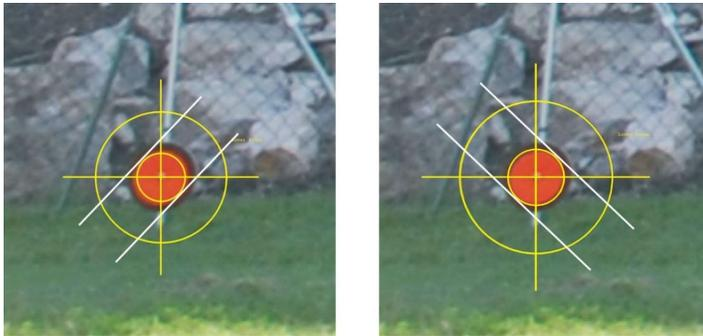

Figure 27: Check of the target center
4. Choose the “Manual Target Mode”  or the “Automatic Mode”  and centre the target by clicking with the mouse in the viewer. For locating the target discs the image should be zoomed as much as reasonable for visual interpretation. Check the position of the center by changing the size of the reticule. The reticule is well-centered if the circles touch the target’s boundary simultaneously at two opposing points and in two perpendicular directions (Figure 27).
4. Choose the “*Manual Target Mode*” icon or the “*Automatic Mode Icon*” and centre the target by clicking with the mouse in the viewer. For locating the target discs the image should be zoomed as much as reasonable for visual interpretation. Check the position of the center by changing the size of the reticule. The reticule is well-centered if the circles touch the target’s boundary simultaneously at two opposing points and in two perpendicular directions (Figure 27).